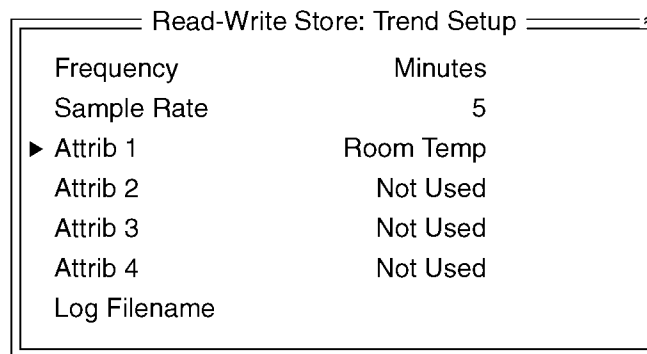

Figure-4.13 Edited Trend Setup Window.
- Select the attribute to trend and press <Enter>. The selected attribute appears in the Trend Setup Store window (Figure-4.13).